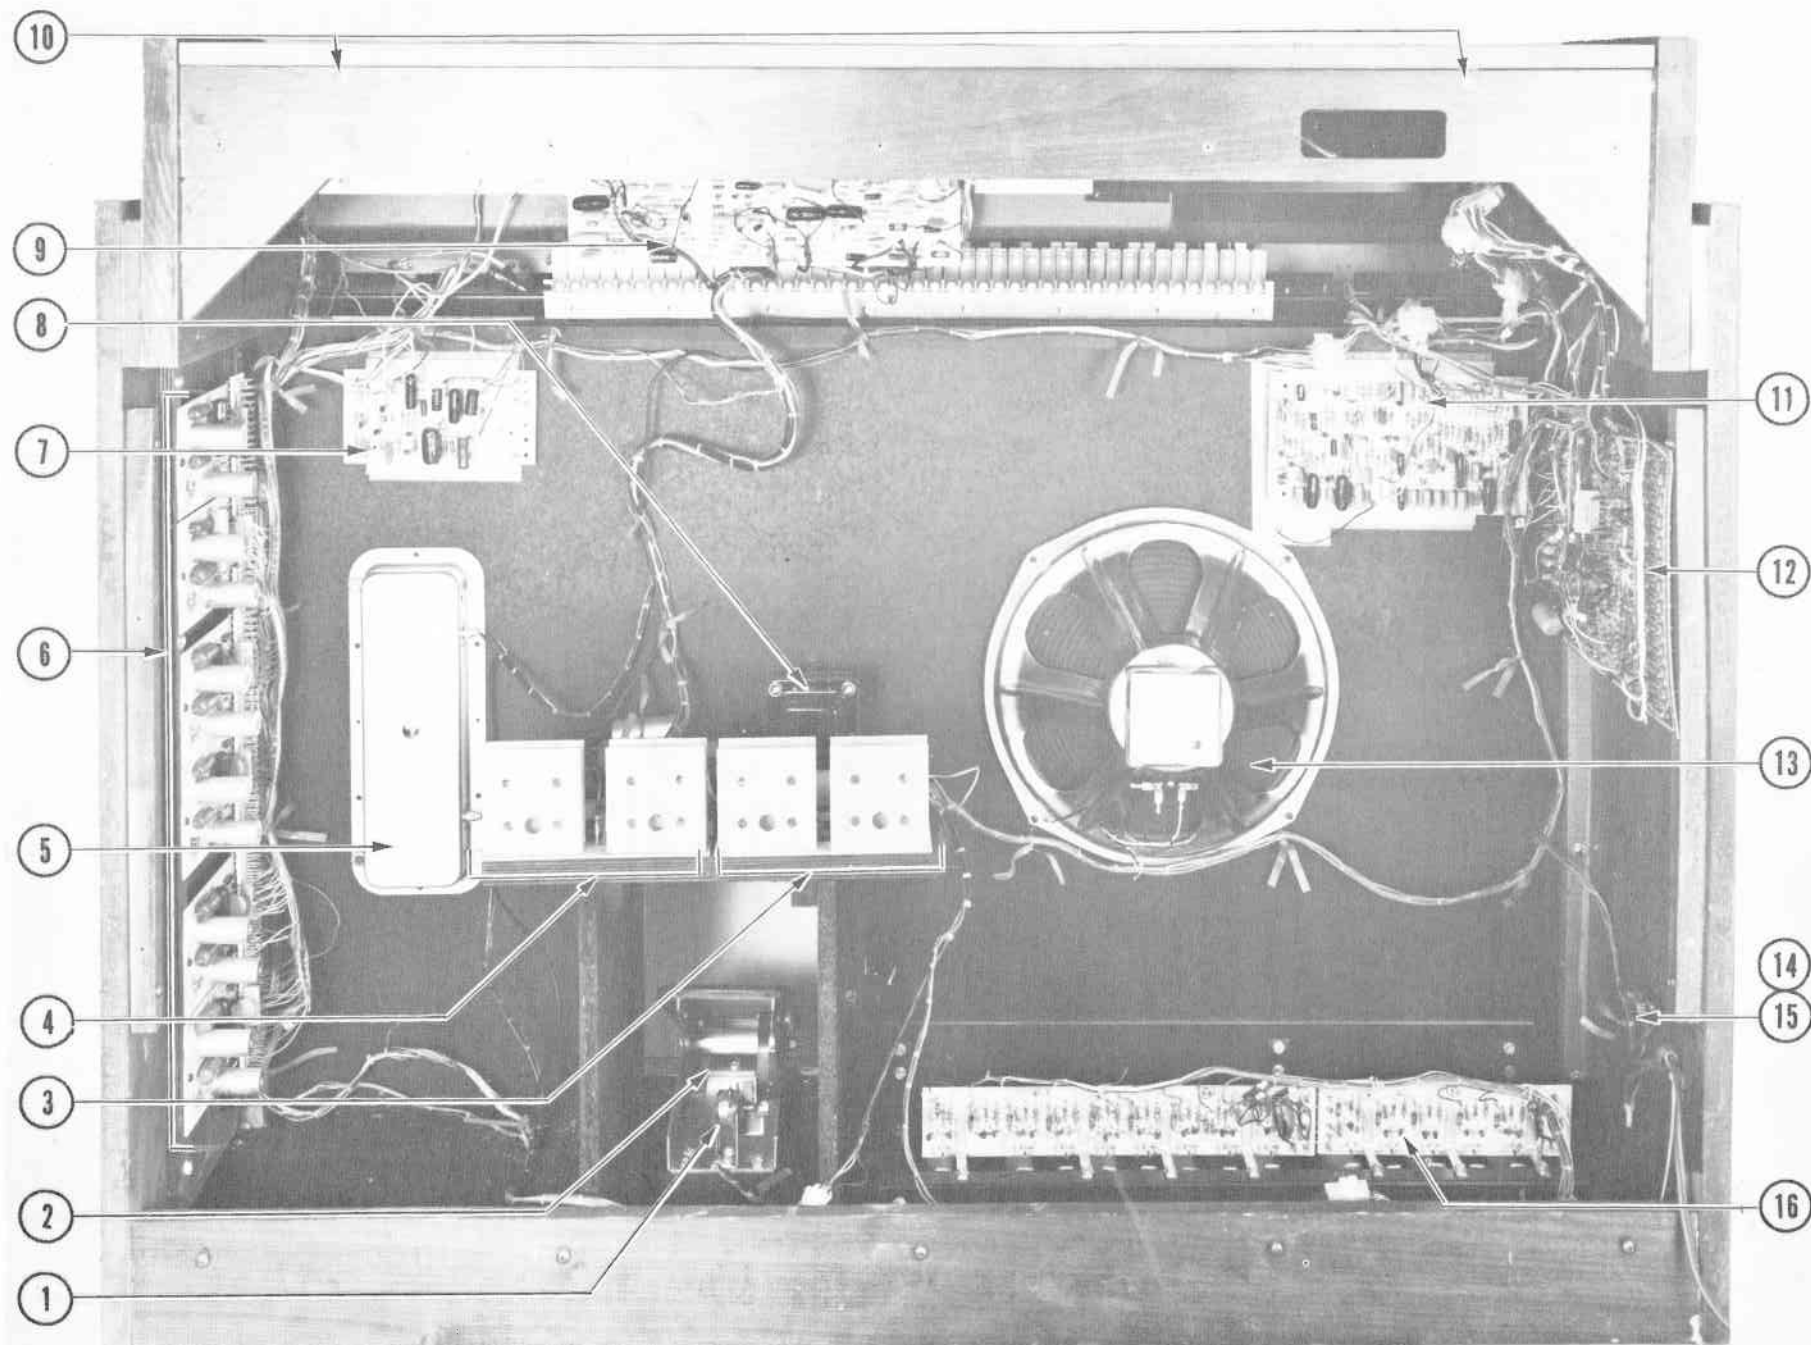

FIG. 38 - N124B ORGAN REAR VIEW (BACK REMOVED)
1. General relocation of board assemblies as seen in Fig. 38.